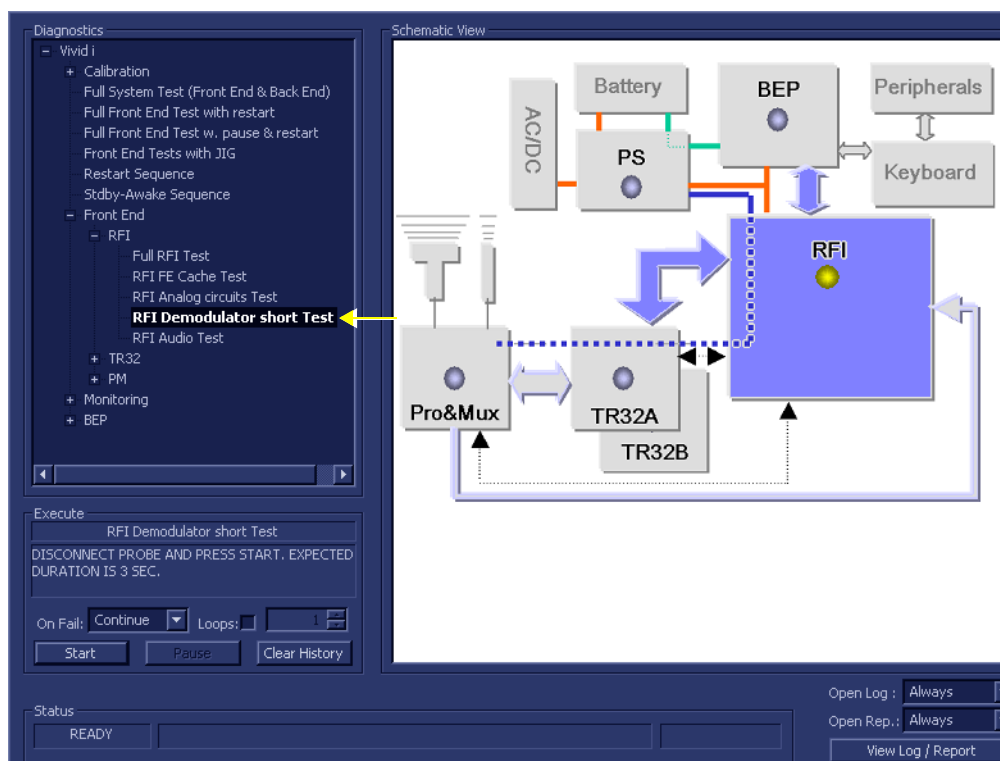

Figure 7-17 RFI Demodulator Short Test
- 1.) In the *Diagnostic Test* window, trackball to **RFI Demodulator Short Test** in the list of *RFI* tests available for selection from the Diagnostic Test Tree (see Figure 7-17 below) and press **Set**. The RFI Demodulator Short Test name is displayed under *Execute*; the relevant system component to be tested are highlighted light blue in the Schematic View (RFI), as shown below: